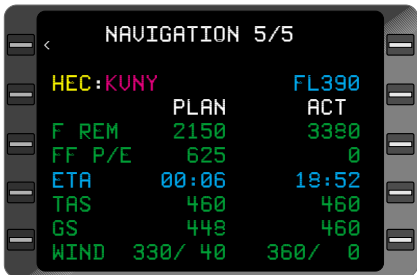

Figure 7-3
**HEC:KVNy:** Current FROM and TO waypoints. (Figure 7-3) The FROM waypoint can be replaced by **DIR TO** for DIRECT TO.